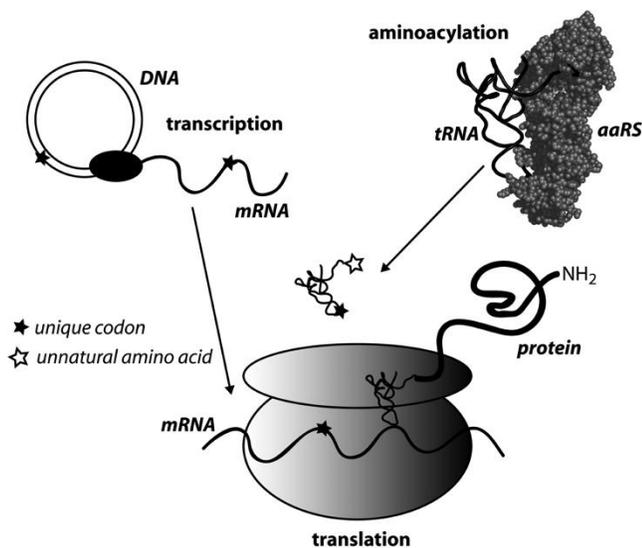

Figure 2. Processes of transcription and translation
codons do: having an aminoacyl-tRNA synthetase (RS) bind an amino acid to a custom tRNA, which then adds the amino acid to the peptide chain via the ribosome (Figure 2). Since the amino acid is not naturally occurring, no corresponding RS/tRNA pair is naturally present in the cell.